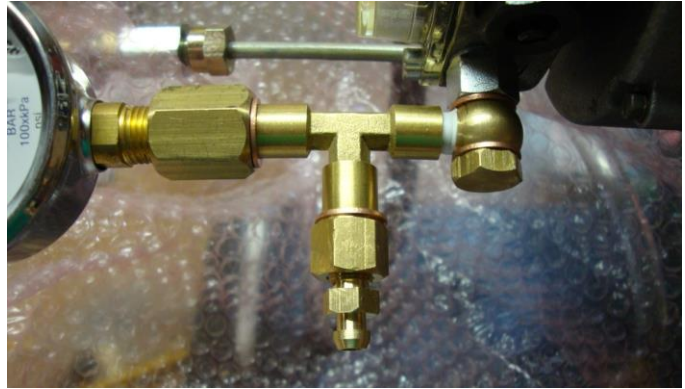

Figure 1-16
2. Open the bleeder $\frac{1}{2}$ to $\frac{3}{4}$ turn or install a gauge with adapter to provide for flow control through the bleeder port, **Figure 1-16**. Figure 1-16 shows the use of our #223 adapter. If this arrangement is not available simply use the supplied bleeder and open it only $\frac{1}{2}$ to $\frac{3}{4}$ turn and place a bleeder hose from the bleeder into a purging can with enough oil to submerge the end of the hose in liquid to create a closed system.